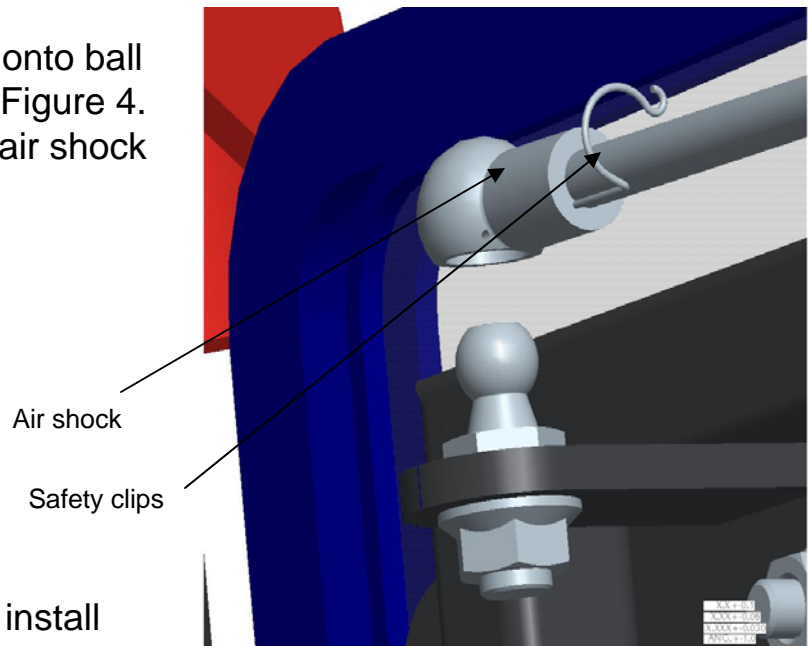

Figure 4.
4. Install the door air shock onto ball stud in door as shown in Figure 4. Then install other end of air shock on to cab ball stud.
5. After installing air shocks, install safety clips on both sides of the ball stud receivers, See Figure 4, to ensure that the air shocks do not fall off.